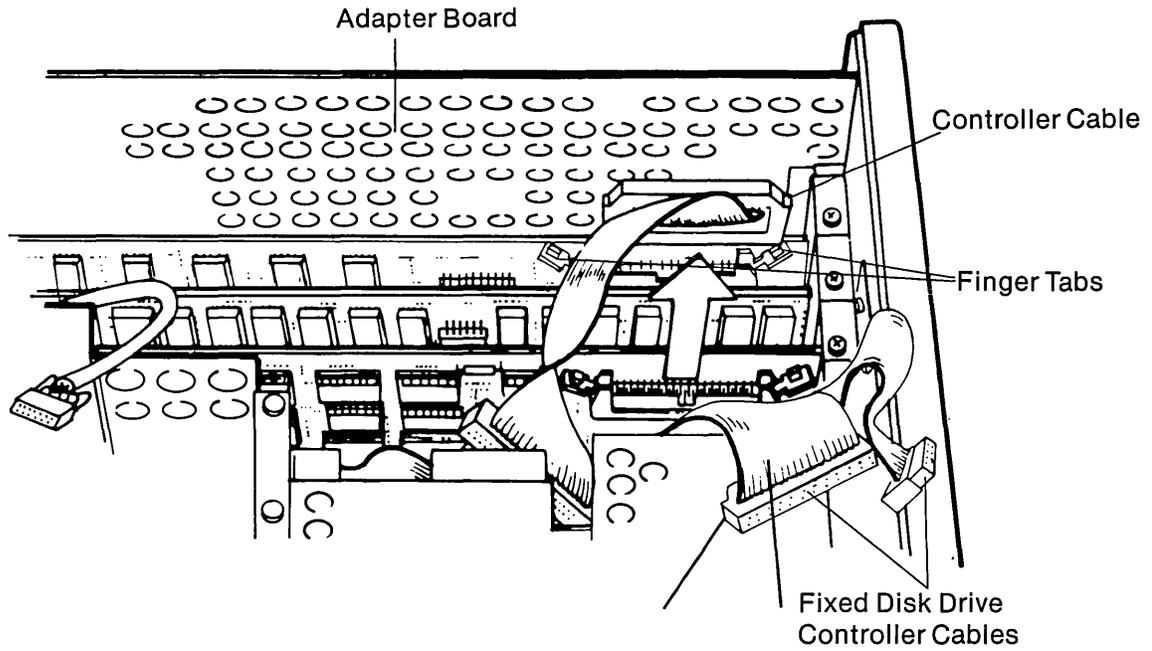

Figure 10-13. Disconnecting the Signal Cable From the Floppy/Printer Adapter Board.
- 6 Disconnect the floppy disk drive controller cable from the floppy/printer adapter board by pressing on the finger tabs located on either side of the connectors (see Figure 10-13).